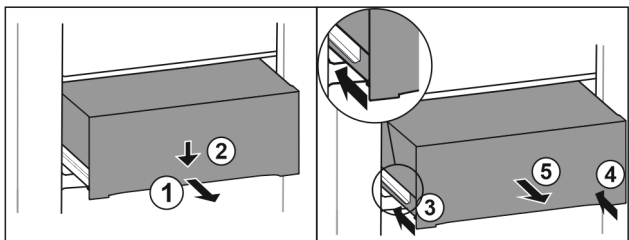

Fig. 110
- ▶ Pull out the drawer halfway. Fig. 110 (1)
- ▶ Press down the drawer on the front. Fig. 110 (2)
- ▶ Push in the left rail approximately 2 cm (13/16 in). Fig. 110 (3)
- ▶ Push in the right rail approximately 2 cm (13/16 in). Fig. 110 (4)
- ▶ Remove drawer to the front. Fig. 110 (5)